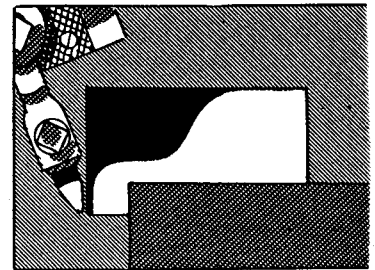

FIG. 494
3. Raise the work and the table until the tool is even with the lowest point of the surface to be cut (Fig. 494). Refer to page 77 for adjusting the table vertically. Make certain that the cross rail is properly clamped and that the table support is properly adjusted.